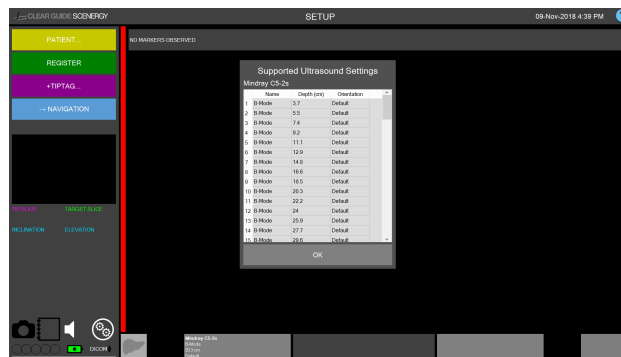

Figure 12: User Interface showing Supported Ultrasound Settings
**CLEAR GUIDE systems support 2D single-full-image ultrasound settings**, where a single 2D ultrasound image is displayed at standard zoom level on the ultrasound machine's screen. This usually includes at least B-mode imaging. Typically, all depth settings are supported, as well as mirrored and inverse images. **Supported settings vary depending on ultrasound machine and transducer**, and can be displayed by tapping the Ultrasound Information Box (Figure 12).